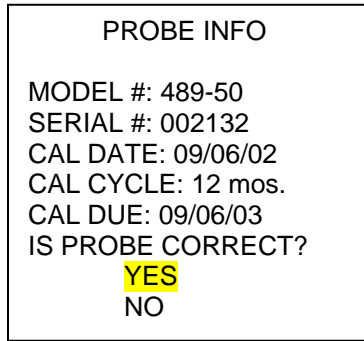
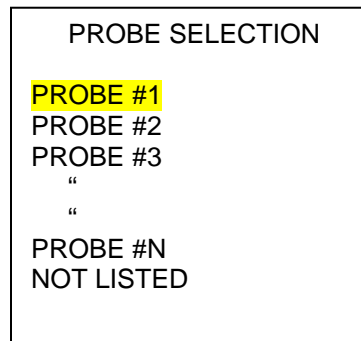
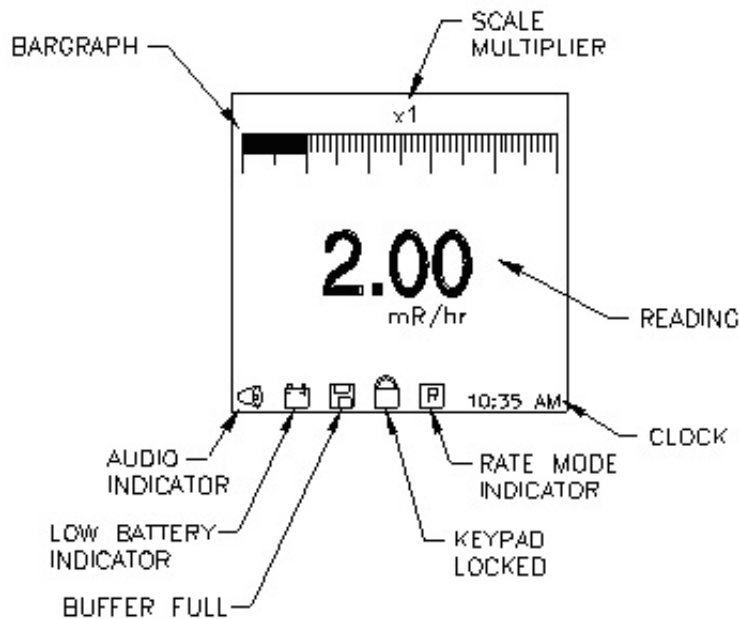

Figure 2-2. Probe Information
Figure 2-3. Probe Selection
Figure 2-4. Normal Operating Screen (Rate Mode)
- a. The “ON/OFF” key is used to apply power to, or remove power from, the unit. If the unit is off when this key is pressed, then the unit will turn on. The LCD will then display an introductory screen, consisting of the company name, logo, and address. This screen/message will remain for a period of five seconds. It then will revert to the operating mode (refer to Figure 2-2). If the unit’s power is already on when this key is pressed, then the unit will turn off (i.e. no characters will be displayed on the LCD).
- b. After the five-second interval is over, the unit will display information regarding the previously selected probe (see Figure 2-2). A prompt will then appear asking the operator to choose to continue with the current probe selection, or to make another selection. If the operator decides to make another selection, then the screen will display a list of probes that are currently available for usage with that particular instrument (see Figure 2-3). Once a probe is selected, the normal operating screen will be displayed (see Figure 2-4). The screen includes a “RULER” bar graph, scale multiplier, measurement reading, data unit, and real-time clock. The data unit and mode of operation are based on the user’s previous selections.